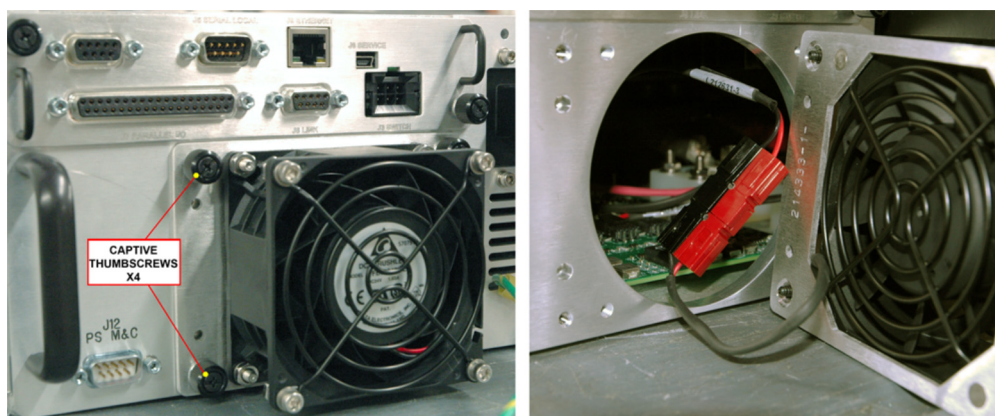

Figure 18: 3RU SSPA, Rear Fan Assemblies
The exhaust fans on the rear panel are each secured by four (4) captive thumb screws. To remove, loosen the screws and carefully remove the fan assembly from the chassis. Unplug the fan power cord from the connector. See Figure 18.